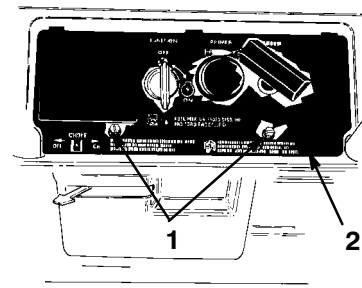

Figure 12
3. Remove the two screws that secure the control panel to the housing (Fig. 12).
- Remove the two screws that secure the control panel to the housing (Fig. 12).